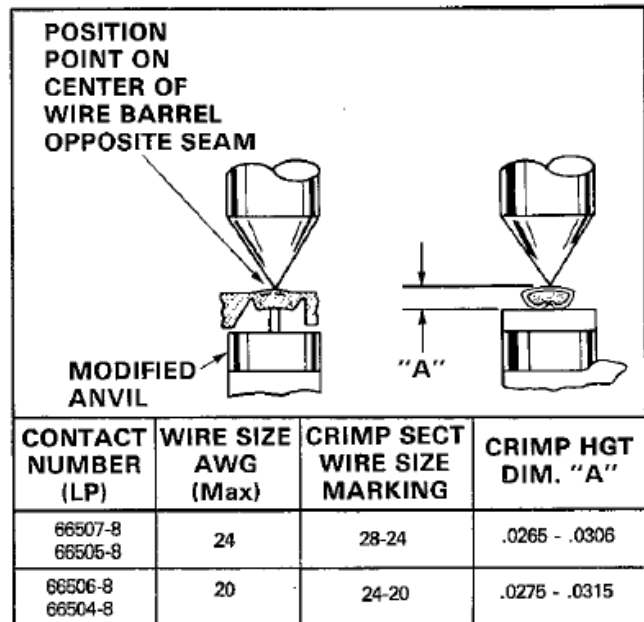

Fig. II-2
This inspection requires the use of a micrometer with a modified anvil as shown in Figure II-2. We recommend the modified micrometer (Crimp Height Comparator RS-1019-5L) which can be purchased from:
1. Refer to the chart in Figure II-2, and select a contact and a wire (maximum size) for each crimp section listed in the chart.
3. Using a crimp height comparator, measure wire barrel crimp height as shown in Figure II-2. If the crimp height conforms to that shown in the chart, the tool is considered dimensionally correct. If not, the tool must be repaired (see Paragraph II-2, REPAIR).
1. Select a contact and wire (maximum size) for the tool (see Figure II-2).